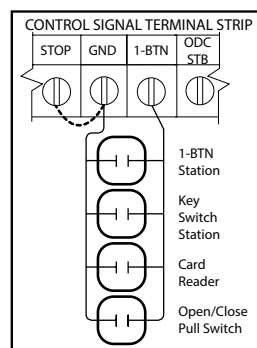

Fig. 2
- 2) For single button accessory controls, make connections as shown in Fig. 2.